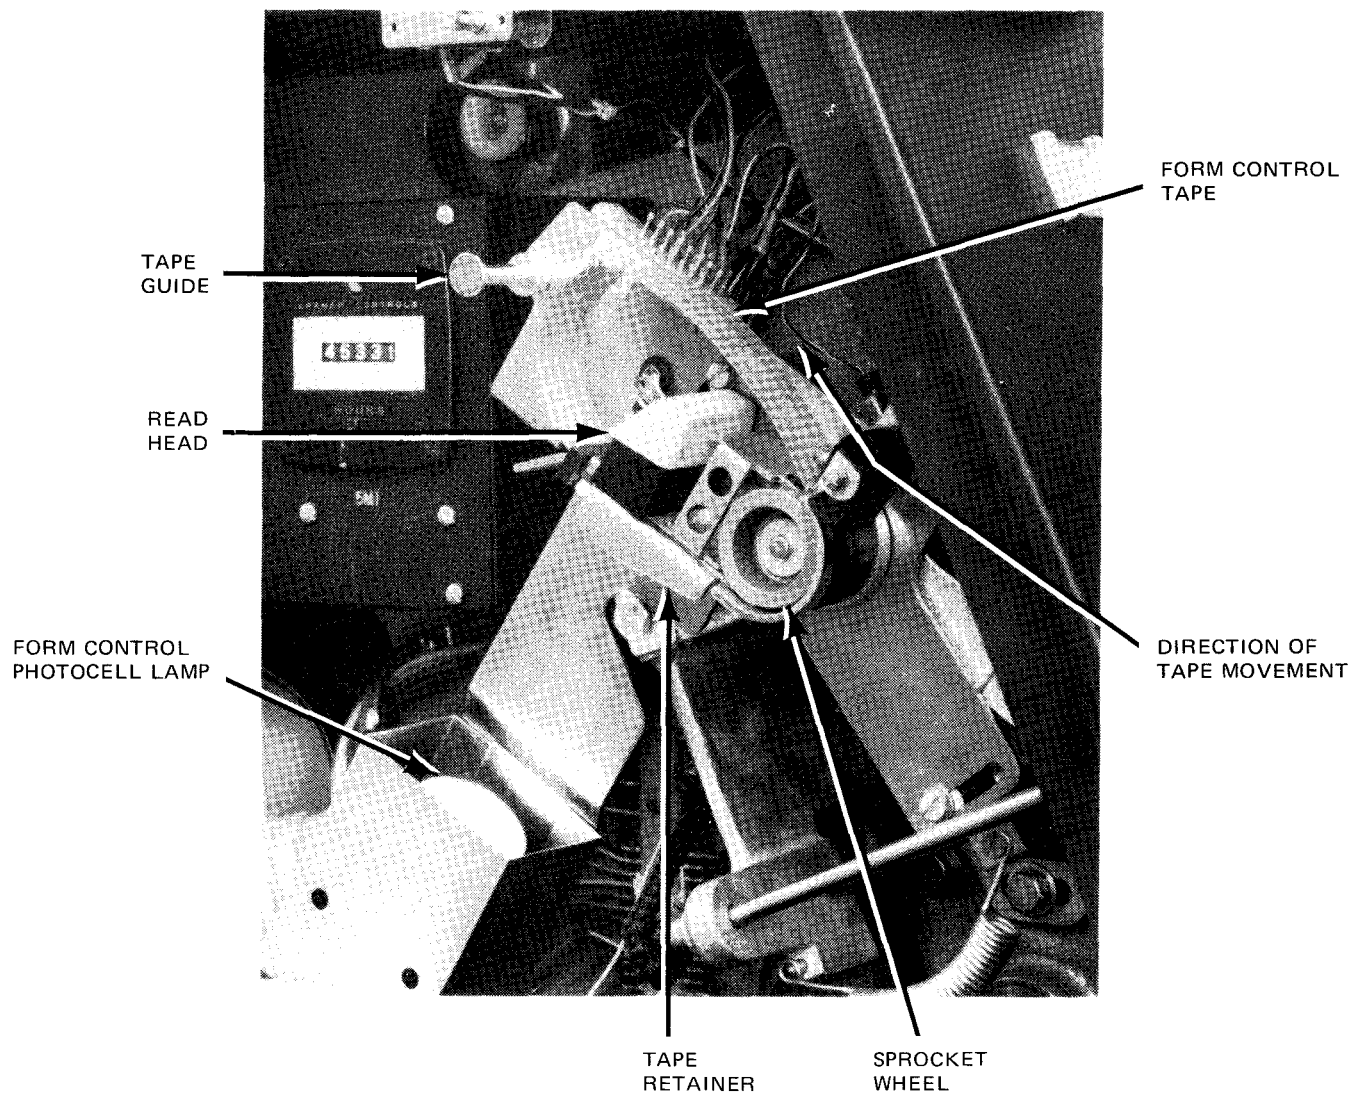

Figure 6-3. Forms Control Mechanism
The forms control mechanism (Figure 6-3) consists primarily of a sprocket wheel, a tape retainer, a read head, a lamp, and a tape guide. The pins around the sprocket wheel engage sprocket holes in the tape, thereby synchronizing tape feeding with form feeding. The tape retainer holds the tape firmly against the sprocket wheel to ensure constant engagement. The lamp, located below the retainer, shines through the hole punch codes in the tape and onto photocells in the read heads. The tape guide holds long tape loops clear of the printer mechanism.
- (1) Press STOP switch/indicator. The STOP switch/indicator lights and RUN switch/indicator goes out.
- (2) Press ON LINE/OFF LINE switch, on left-hand control panel, to OFF LINE. The OFF LINE indicator lights.
- (3) Open forms control tape loop access panel on left side of printer.
- (4) Swing down the left end of tape retainer (Figure 6-3).
- (5) Release tape from sprocket wheel pins, being careful not to damage tape sprocket holes.